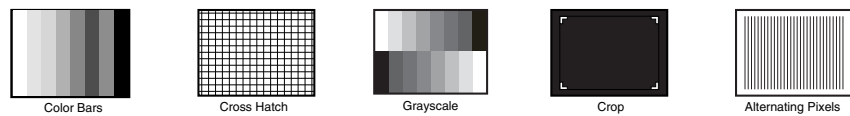

Figure 3-12 — Test patterns
- To select the test pattern you want to display, turn the left adjustment knob. Figure 3-12 shows the image displayed by each test pattern.